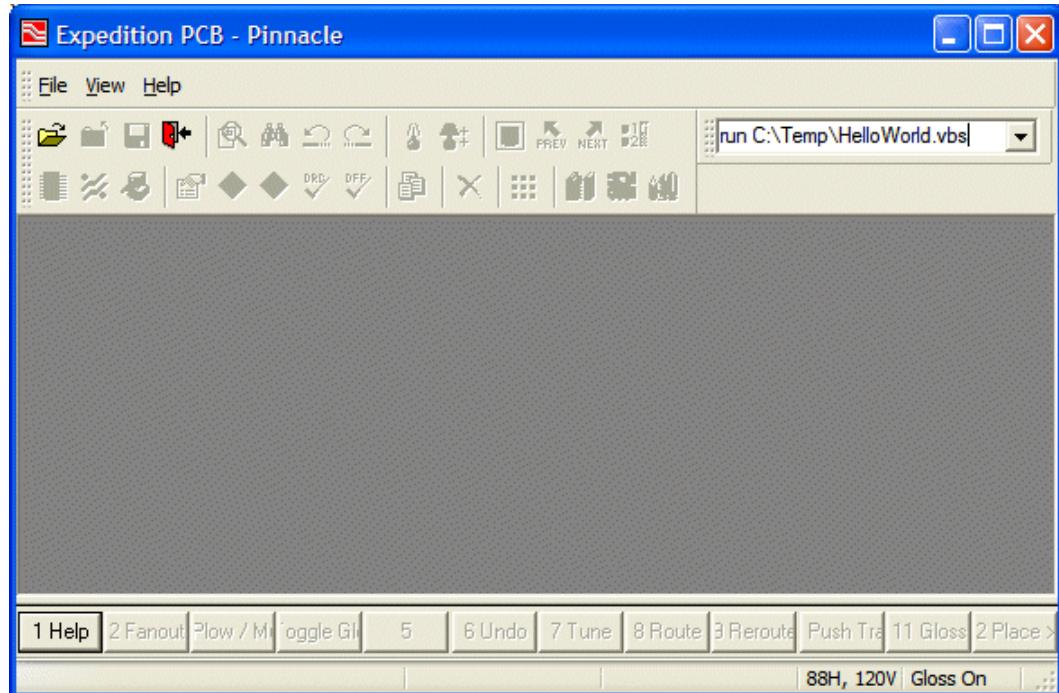

Figure 3-1. The Keyin Command Field.
- 3) Enter the string *run C:\Temp\HelloWorld.vbs* into the **Keyin Command** field (Figure 3-1).